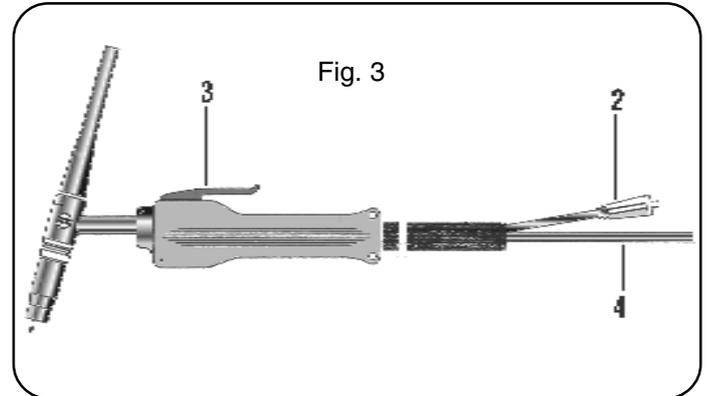

Fig. 3
- Use T150 torch (item 1567.01) and connect power wire (2) fig.3 to negative pole (-) of welding machine.